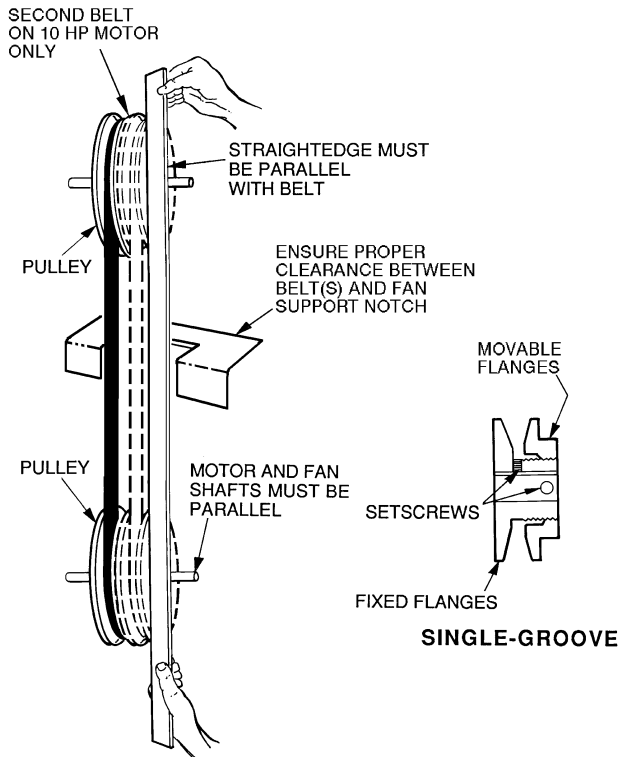

Fig. 30 — Evaporator-Fan Alignment and Adjustment
3. Loosen movable-pulley flange setscrew (see Fig. 30).